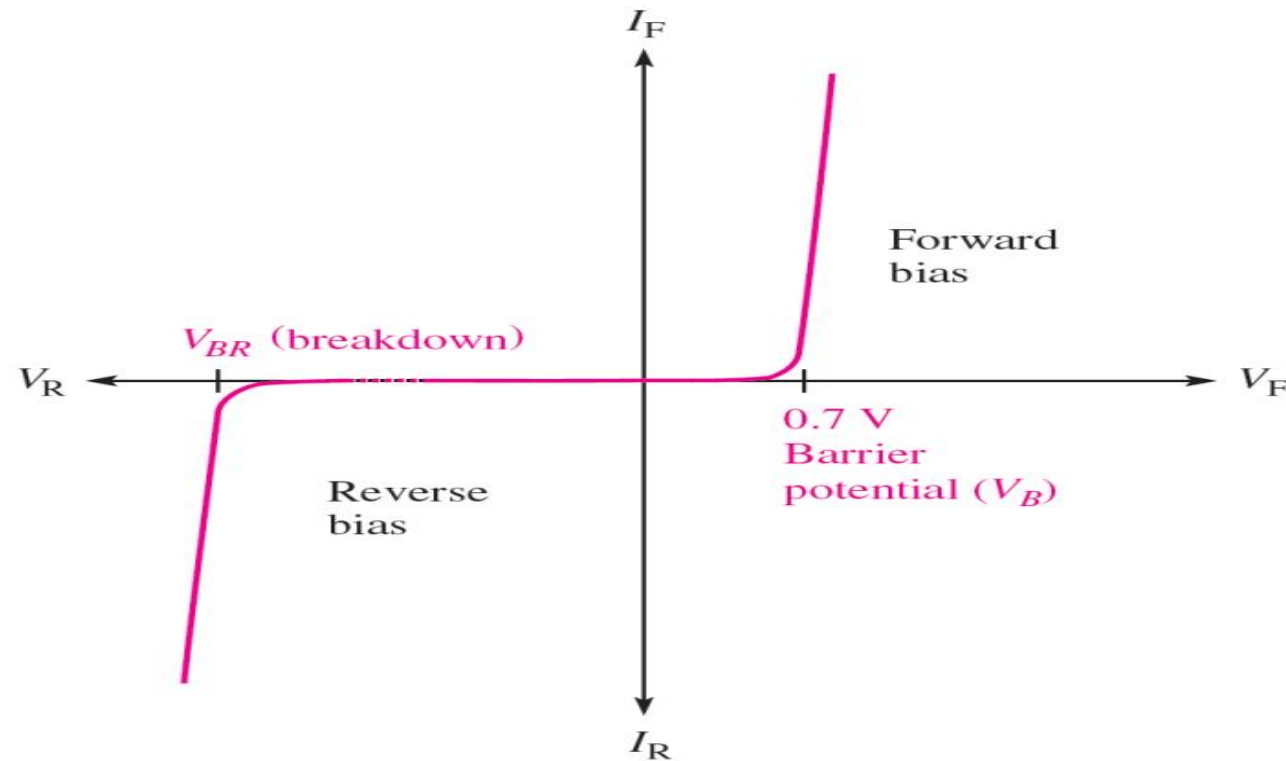

Fig. 3. General diode V-I characteristic curve
- The upper right quadrant of the graph represents the forward-biased condition Fig 3.
- The lower left quadrant of the graph represents the reverse-biased condition Fig 3.